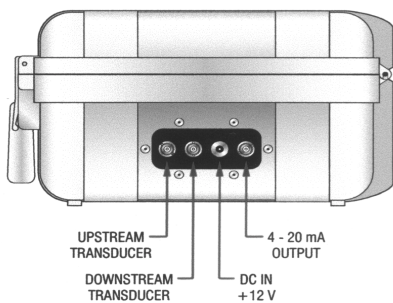

Figure 1.3
- B. Refer to the WIRING DIAGRAM located on the inner door of the TFXP transmitter and **Figure 1.3** for proper power and transducer connections.